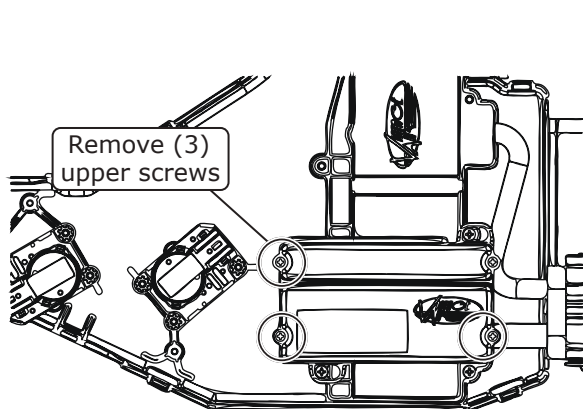

Figure 3
2. Temporarily remove the (3) ECU mounting screws (See Figure 3, below). Remove the ECU from the module.